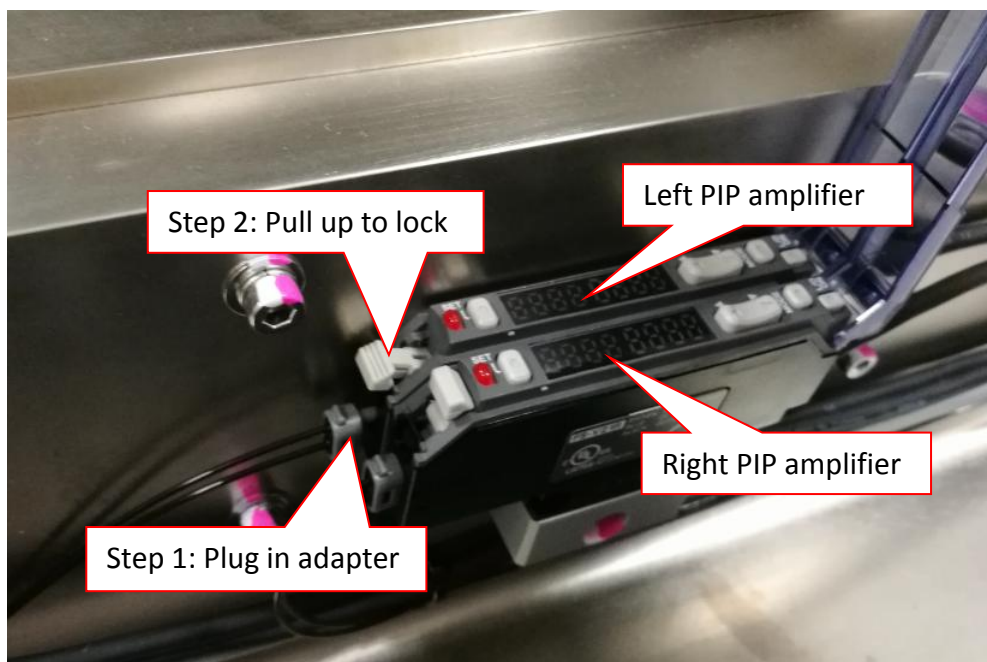

Figure 19 PIP amplifier
11. Plug adapter to Left Amplifier & lock as shown in Figure 19.